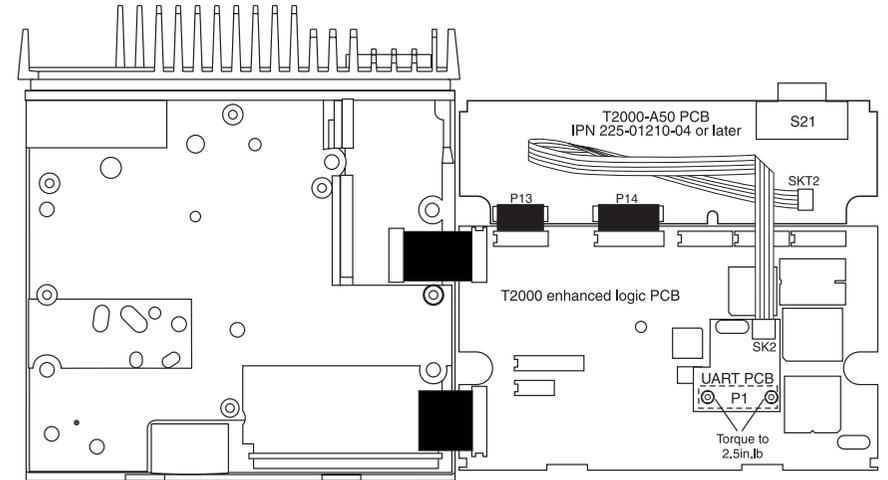

Figure 3: T2000-A66 PCB Mounting (T2000-A50 fitted)
1. Follow steps A (1) and (2).
4. Fold the T2000-A66 loom as shown in Figure 3, then plug onto SKT2 on the T2000-A50 handsfree PCB.